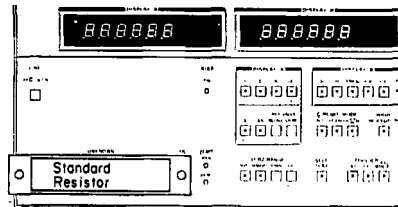

Figure 5-12. A1 Range Resistor and A4 Buffer AMP Tracking Adjustment.
- d. Connect 100kΩ resistor to 4274A UNKNOWN terminals as shown Figure 5-12 and adjust (100kΩ) AIR21 until display counts are within \*(10.0000μs±20) counts for Display A.